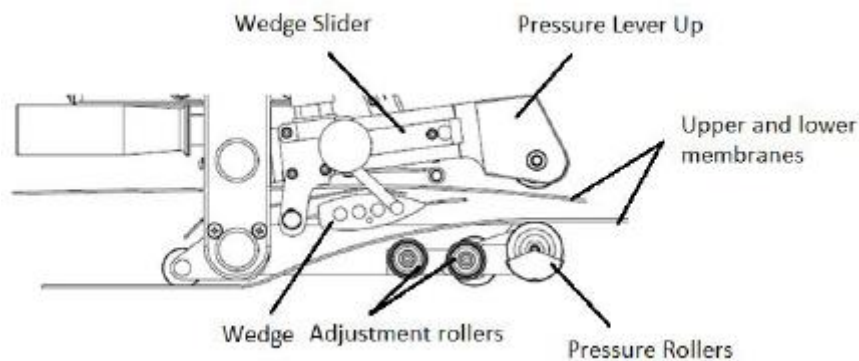

Fig.5. The way of putting membranes into the robot
4. The wedge position can be adjusted horizontally. Be sure that it is in the right end of the wedge slider considering Figure 5.
7. As soon as the robot reaches to the end of the welding route, open the pressure lever up to avoid the pressure rollers (Fig.5) sliding on each other.